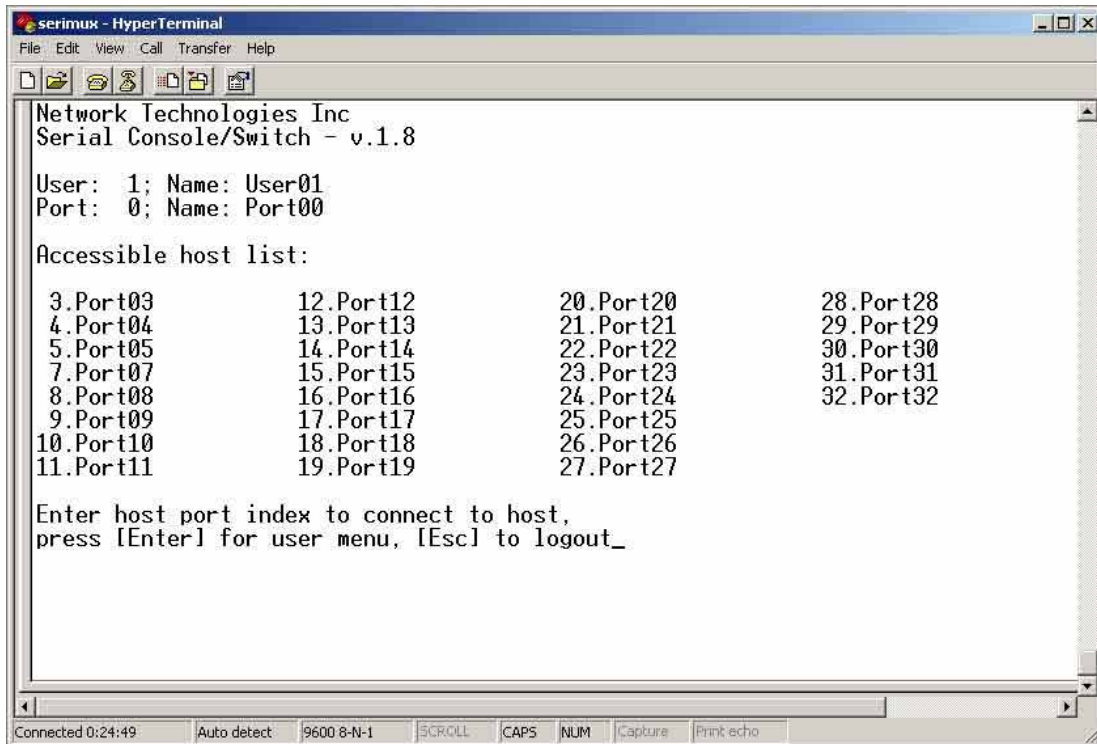

Figure 6- Startup- Accessible host list
1. Press [ Enter ] on the keyboard to be recognized as the default SERIMUX user. The "Accessible host list" for "User01", logged in at "Port00" will be displayed (see Fig 6). By default, all ports are configured as Host ports and all are accessible.
When [3] is pressed to change the in-band disconnect sequence, the choices provided are 0, 1, 3, or T. Pressing a [T] will bring up a Control code list containing key sequences used for 1-character sequences, and the ASCII codes associated with each. (See Fig 6) To set a 1-character sequence, press [1], then the code from the table associated with the desired sequence.